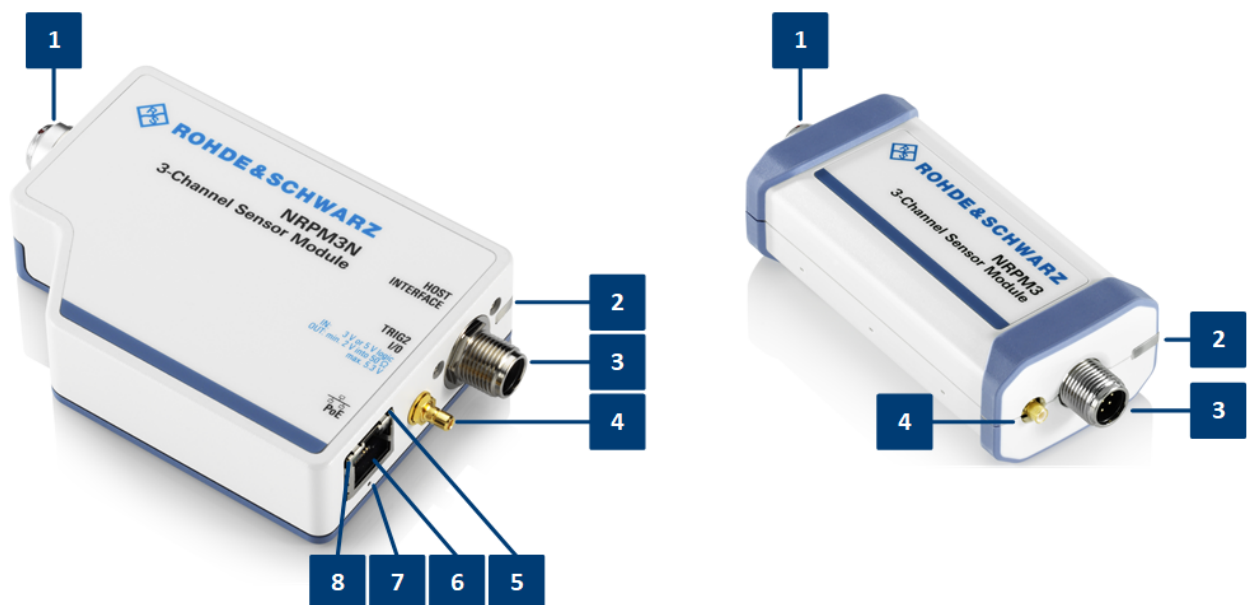

Figure 5-1: R&S NRPM3N and R&S NRPM3
This chapter provides an overview of the available connectors and LEDs of the R&S NRPM3(N) sensor modules. Figure 5-1 shows the LAN sensor module on the left, and the USB sensor module on the right.